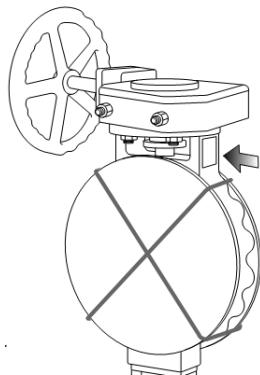

Fig. 2a
- Check valve nameplate (item 19) to confirm materials of construction and product standards are correct for the intended service and as specified. (see fig. 2a and 2b)
- Confirm Gland Packing adjustment nuts (item 29) cannot be adjusted by hand.